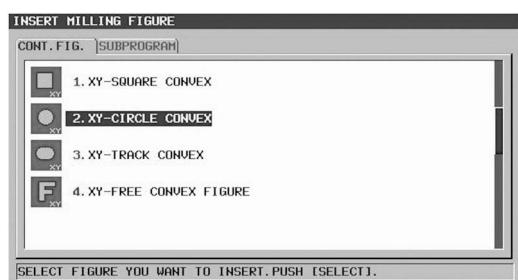

Figure 7-56 CONTOUR FIGURE, XY-CIRCLE CONVEX
- To define the contour shape of the milling Figure, select item 2. XY-CIRCLE CONVEX from the options in the INSERT MILLING FIGURE dialog CONT. FIG. tab (Figure 7-56).